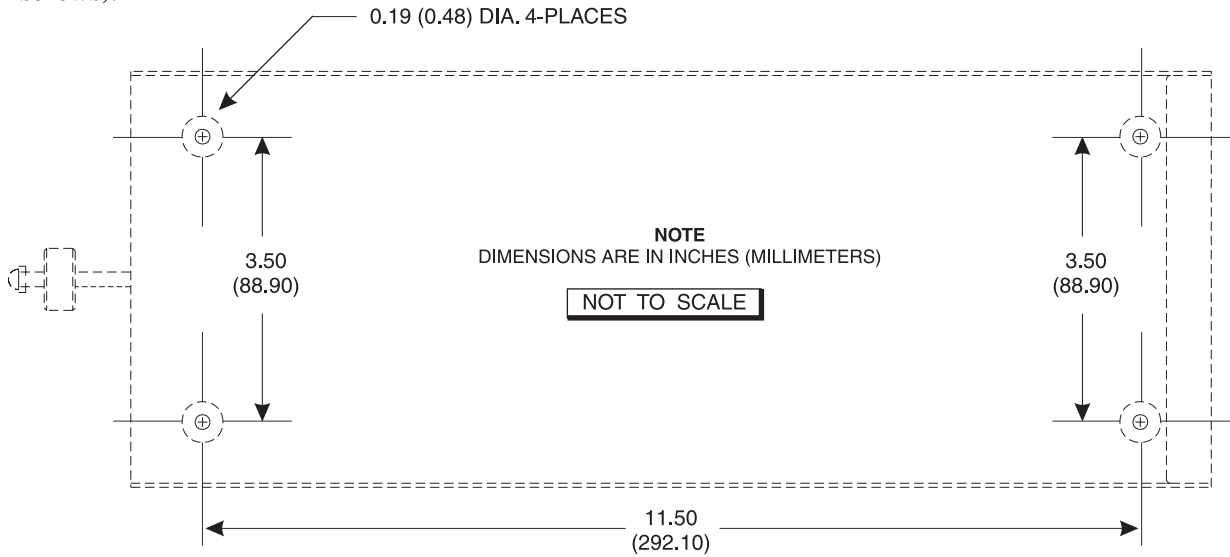

Figure 2-13. Processor Tray Mounting Holes
2. Refer to figure 2-13. Determine centers for mounting holes and drill for required fasteners (i.e., 10-32 screws).